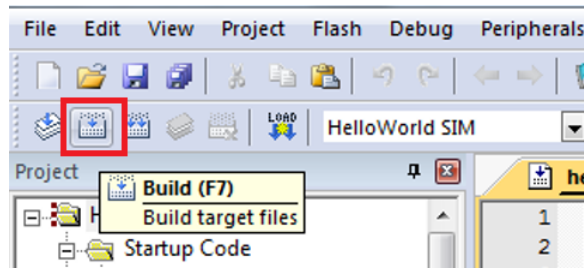

Figure 1.5: Keil IDE: Build Button
2. Build the HelloWorld SIM Target by pressing the Build button or F7 (see Figure 1.5).
- Build the HelloWorld RAM Target by pressing the Build button or F7 (see Figure 1.5).